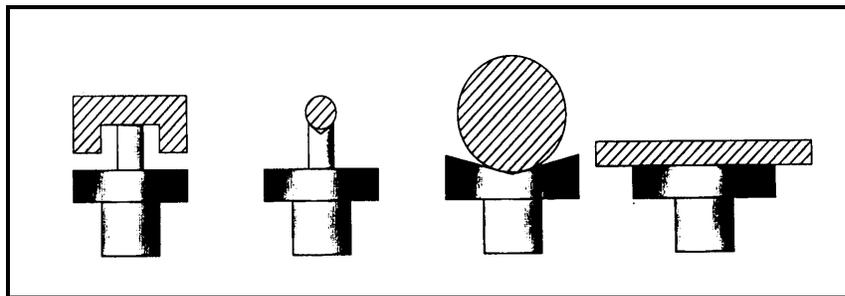

Figure 3-7. Anvils typically used for conducting tests, from left to right: a spot anvil, a small v-anvil, a large v-anvil, and a standard flat anvil.
- Select the correct anvil. Typically the shape of the test piece will determine which anvil to use. Figure 3-7 illustrates some of the options. The most important aspect is that the test piece is secured and can not shift during the course of the test and that it is perpendicular to the indenter.